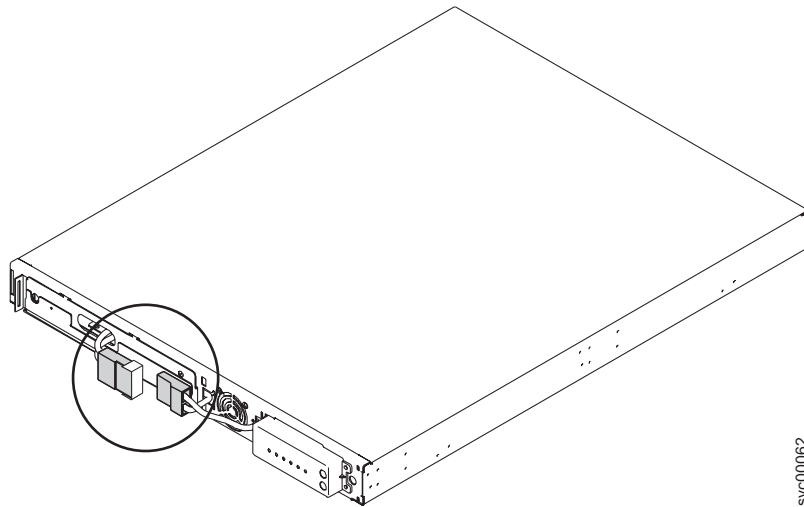

Figure 208. The 2145 UPS-1U internal battery connector with protective tape
6. Remove the protective tape from the internal battery connector (circled in Figure 208 on page 486).